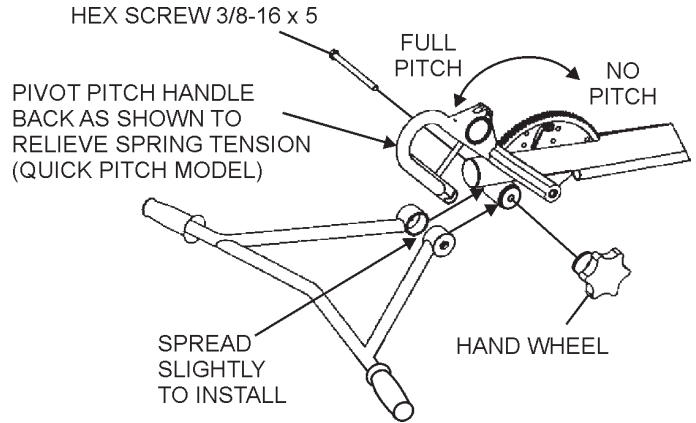

Figure 6. Handlebar Installation
2. On Quick-Pitch™ models, pivot the **pitch handle** back (full pitch) (Figure 6). This will relax the spring inside the handle tube. On either model, spread the handle bar ends just enough to engage the teeth on the handle tube. Attach the hand wheel assembly, position handlebar to desired location, and tighten hand wheel firmly.